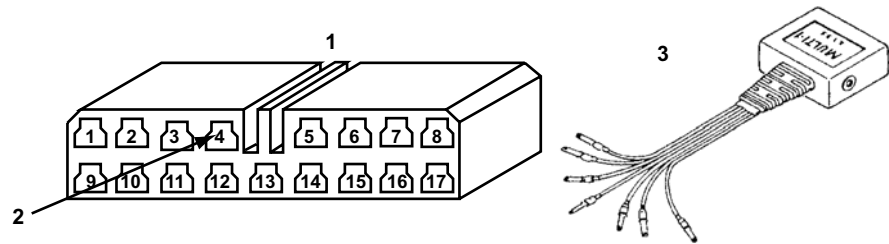

Figure 15-28 17-pin Check connector
- Connect the MULTI-1 adapter blue wire to Check connector pin 4 (Figure 15-28).
- Connect the blue wire of the MULTI-1 adapter to pin 7 (Figure 15-28).
- Connect the blue wire of the MULTI-1 adapter to Check connector pin 11 (Figure 15-28).